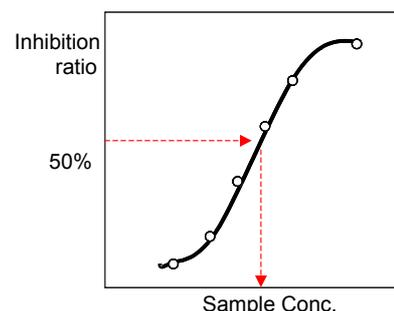

Fig.4 Inhibition curve
- Prepare an inhibition curve with using the sample concentration for X axis and ACE inhibitory activity for Y axis. Typical inhibition curve is shown in Fig. 4.
- Determine the concentration of the sample solution that gives 50% ACE inhibitory activity as indicated in Fig. 4 .